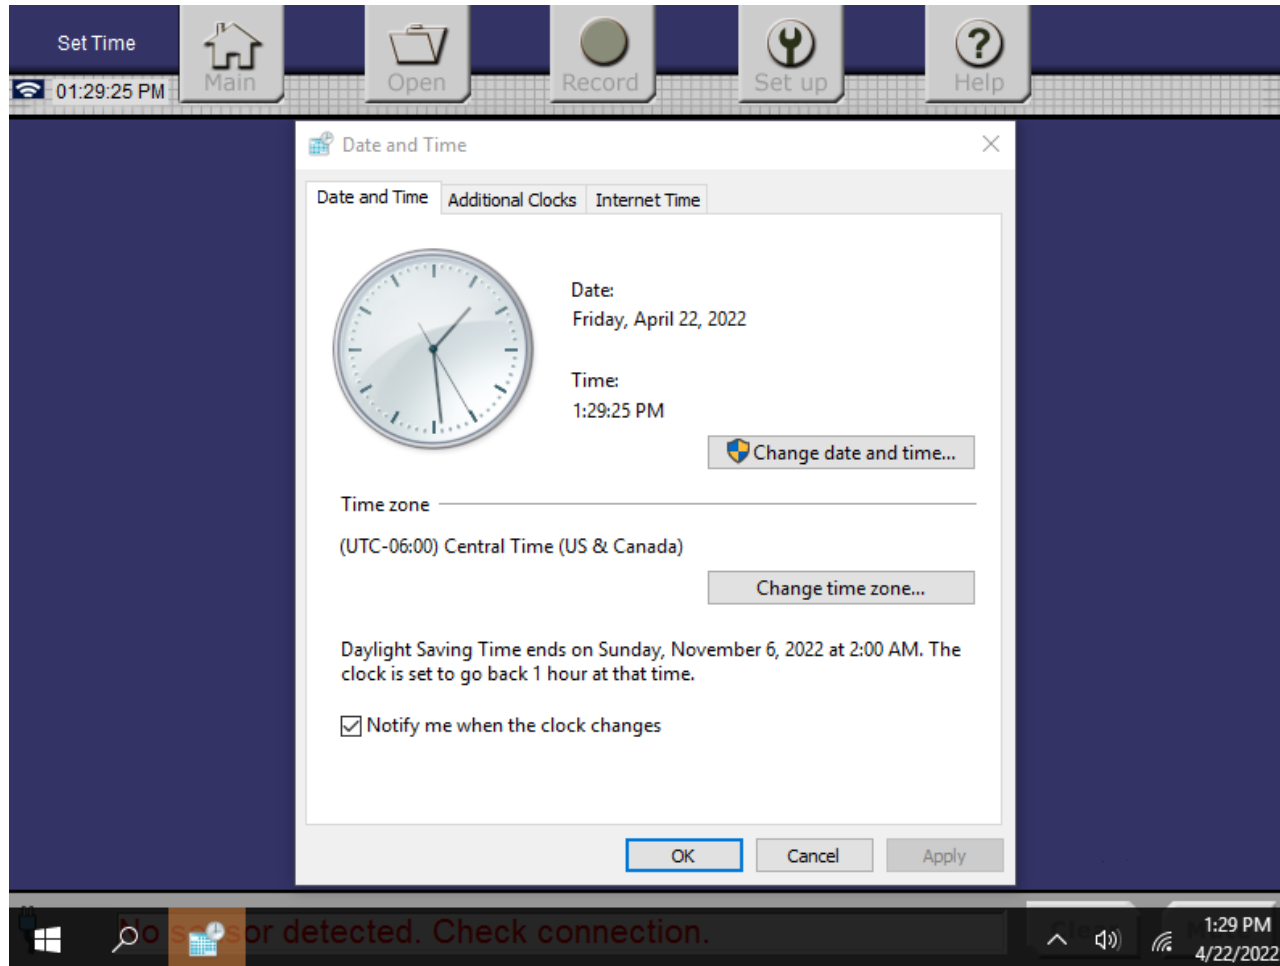

Figure 18. Set Up Current Date and Current Time Screen
7. Press **Cancel** to return to the previous **Set Up Current Date and Current Time** screen (Figure 18) without making changes;
Press **OK** to update the **Current Time** to the **New Time**, then return to the previous **Set Up Current Date and Current Time** screen (Figure 18).
9. Press **Cancel** to return to the previous **Set Up Current Date and Current Time** screen (Figure 18) without making changes;
Press **OK** to update the **Current Time Zone**, then return to the previous **Set Up Current Date and Current Time** screen (Figure 18).
2. Press **Cancel** to return to the previous **Set Up Current Date and Current Time** (Figure 18) screen without making changes;